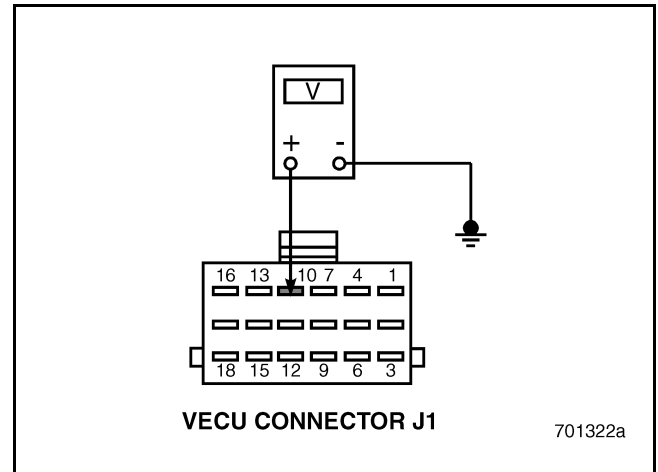

Figure 693
4. Measure the voltage between VECU connector J1 pin 10 and a good ground (see Figure 693).